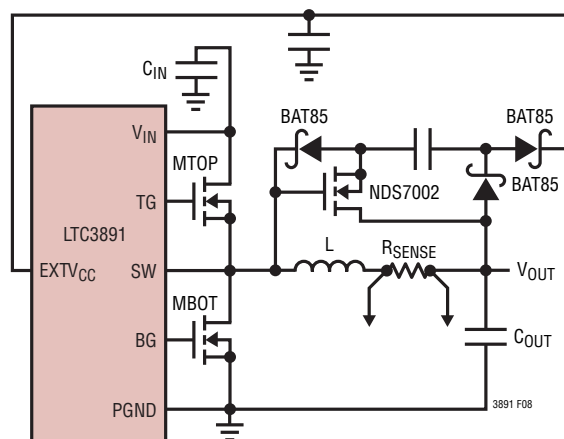

Figure 8. Capacitive Charge Pump for EXTVCC
4. **EXTVCC Connected to an Output-Derived Boost Network.** For 3.3V and other low voltage regulators, efficiency gains can still be realized by connecting EXTVCC to an output-derived voltage that has been boosted to greater than 4.7V. This can be done with the capacitive charge pump shown in Figure 8. Ensure that EXTVCC < VIN.